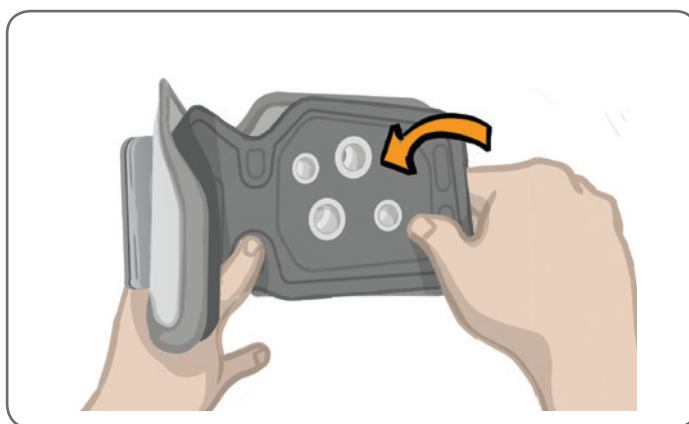

Figure 6-4: Attaching the Personal Panel
1. For the Regular Personal Panel, snap the four buttonholes into the corresponding plug holes on the Regular lower leg FS Cuff. See Figure 6-4.